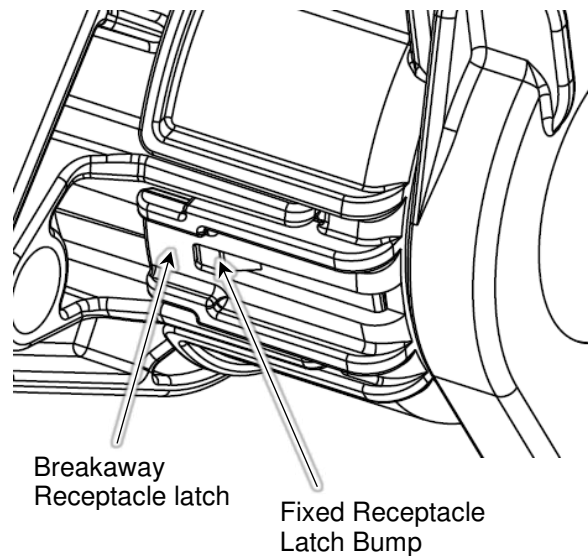

Figure 6
4. Push the receptacles together until the latches snap in place. Ensure both latches are fully engaged before use. See Figure 6.